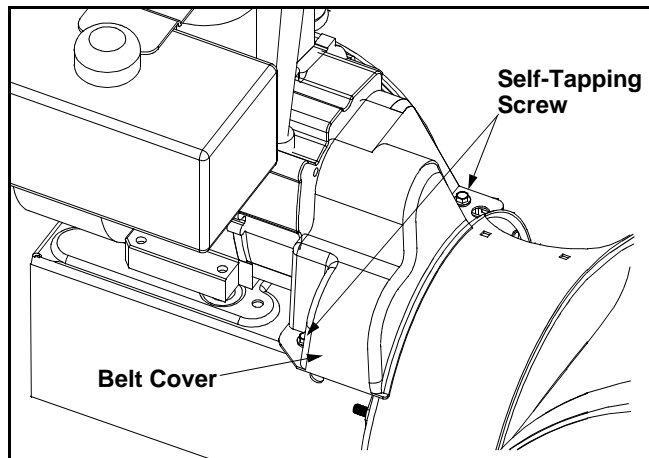

Figure 13
- Remove the plastic belt cover by removing the two self-tapping screws. See Figure 13.